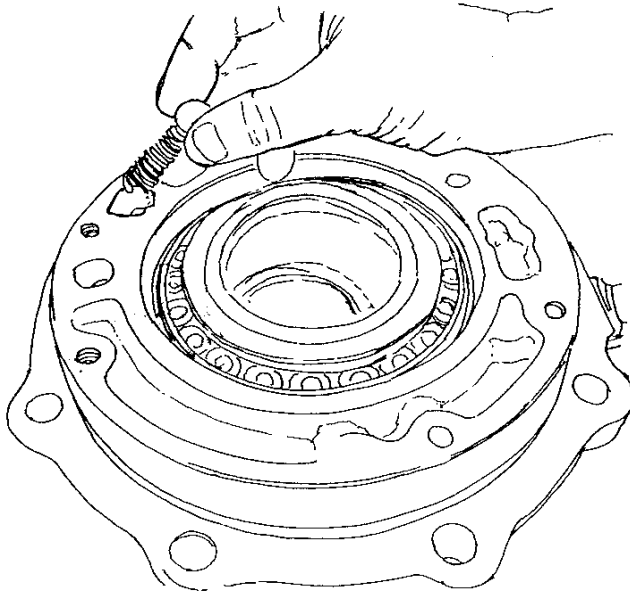

Figure 12 Install Relief Valve Spring
19. Install the relief valve and spring into correct (square) port location in the bearing cage (Figure 12).